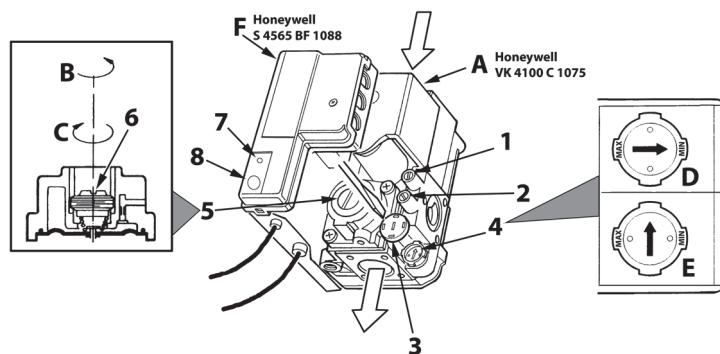

fig. 6 - Pressure adjustment
2. Remove the small protection cap 3 (fig. 6) from the gas valve. Using a small screwdriver, adjust the ignition step for the required gas (G20-G25 position D fig. 6 or G30-G31 position E fig. 6); then refit the cap.